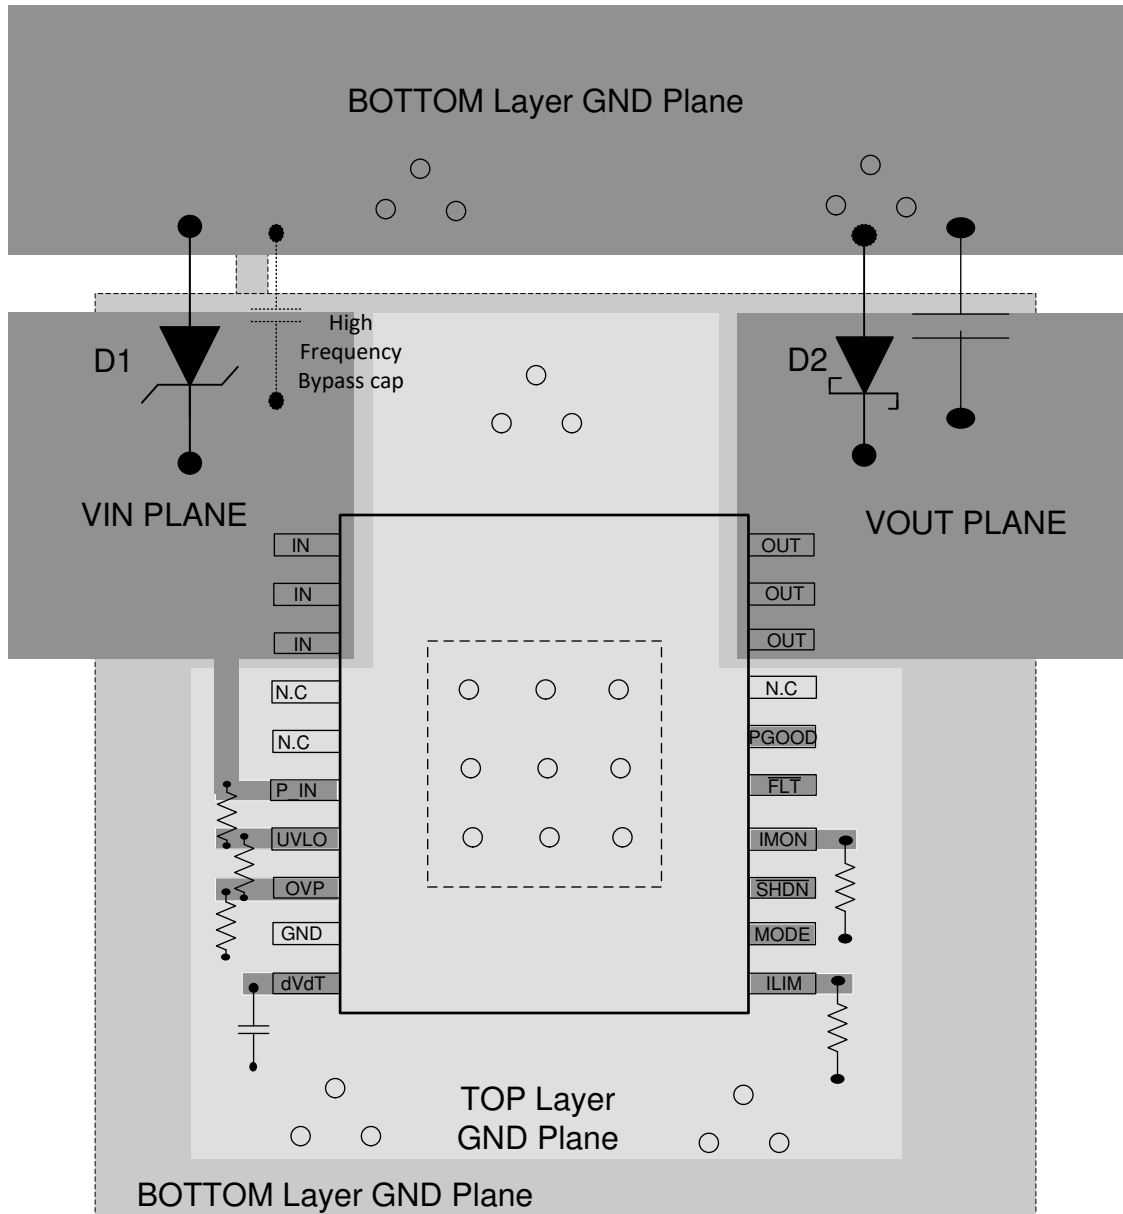

Figure 9-12. Typical PCB Layout Example With HTSSOP Package With a 2-Layer PCB
- High current carrying power path connections must be as short as possible and must be sized to carry at least twice the full-load current. See **Figure 9-11** and **Figure 9-12** for a typical PCB layout example.